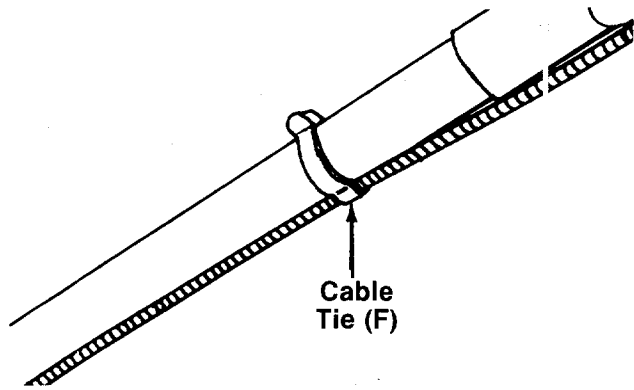

FIGURE 12.
- ← 15. Secure the control cables to handle with cable ties (F) provided. See figure 12.
- 16. Insert plastic plug (J) into hole in the top rear of the deck by slipping one end of plug into hole, then pressing down on the other end of plug.